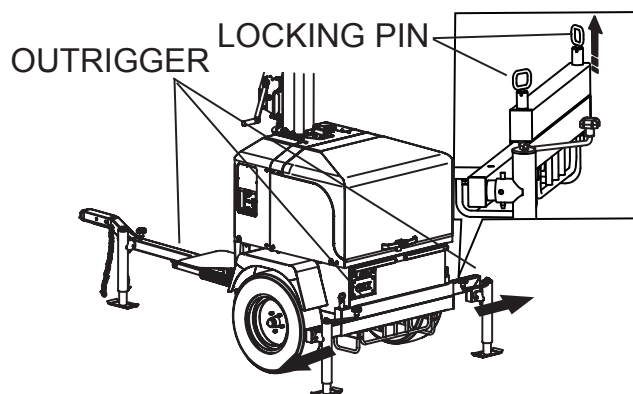

Figure 9. Extending Outriggers
3. As soon as the locking pin clears the travel position hole, release pin and continue sliding out the outrigger. When outrigger is in the extended position, make sure pin snaps into the outrigger locking hole (Figure 9).